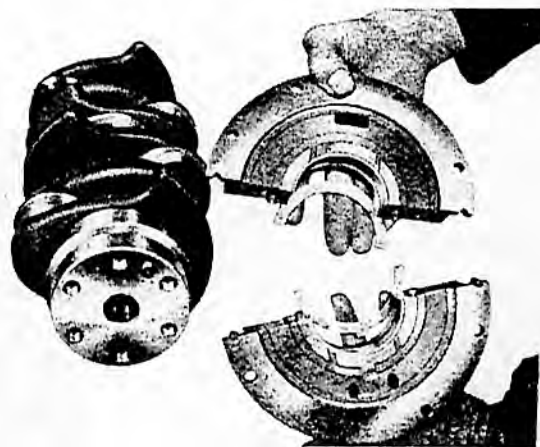

FIG. 147 REAR MAIN BEARING HOUSING ASSEMBLY WITH THRUST WASHERS AND CRANKSHAFT
2. **Rear Main Bearing Housing** Figure 147.
on different sides of the rear main bearing housing or, if required, oversize pairs on both sides. See Figure 147.